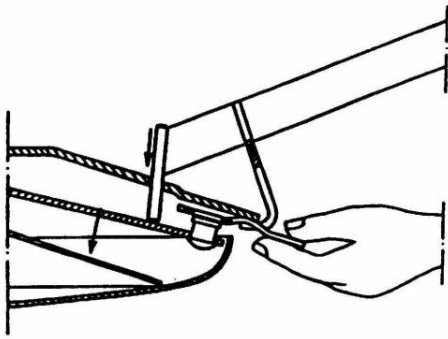

Fig. 8. Method of replacing the knives.
- Regularly check the condition of knives. Each drum should be equipped with three new or uniformly worn CMA 120 knives. A suitable wrench is provided for replacing the knives (Fig. 8.). Correctly settled knife should easily spin on the knife-holder pin. Fig. 8. shows how to replace the cutting knives.